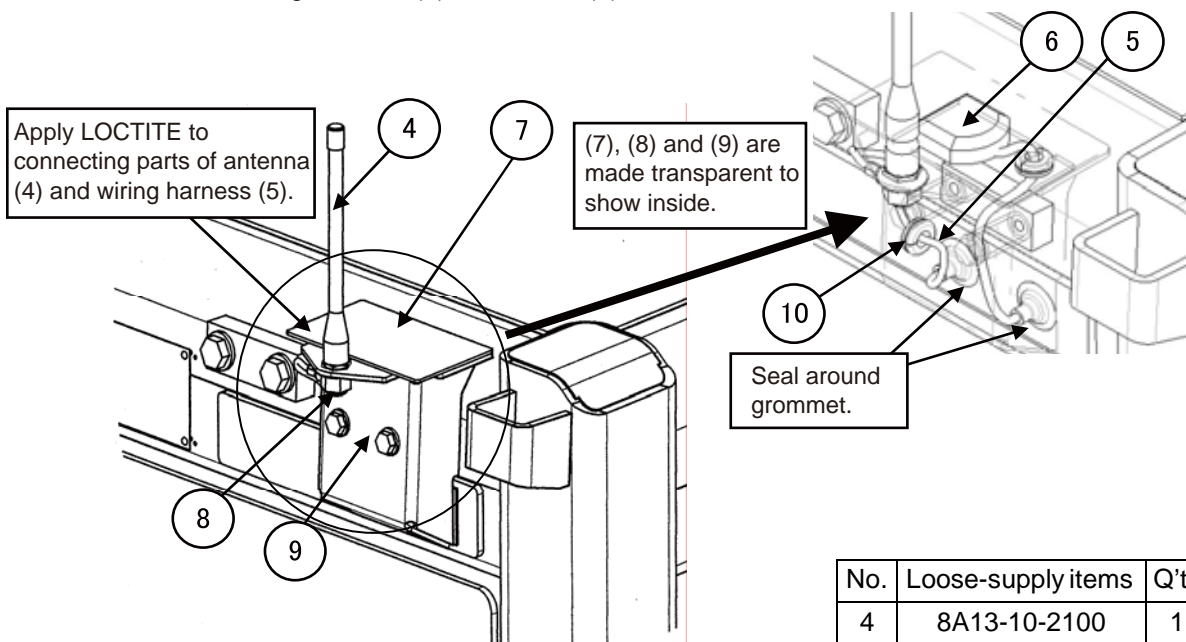

Fig. 4 Installation of antenna
- Pass wiring harness (5) through hole (K) and pass GPS wiring harness (6) through hole (L). Install grommet (10) to bracket (9).
- Referring to Fig. 4, install antenna (4) to bracket (9). Install GPS (6) to the top of bracket (9).
- Fix bracket (9) to (M) with bolt and washer (8).
- Connect wiring harness (5) to antenna (4).